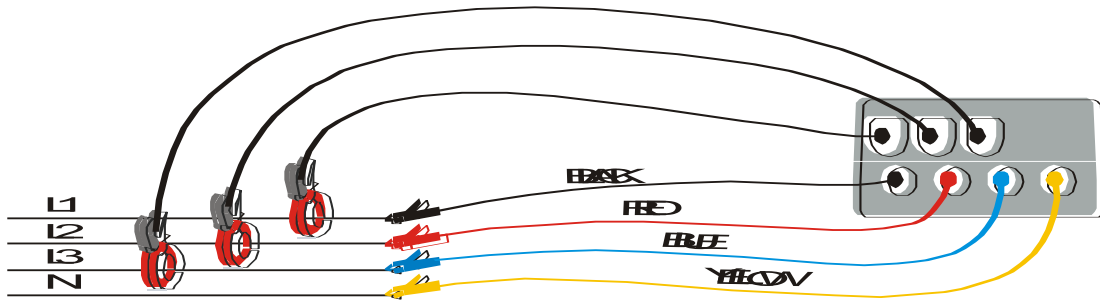

Fig. 2: Instrument connection in a three-phase 4 wire system
3. Connect the phase and neutral voltage wires following the connections shown in Fig. 2.
4. To measure current and power, connect the clamp meter to the phase conductor following the specifications shown on the clamp and the connections shown in Fig. 2. In case of doubts select the position **POWER** and, connecting one clamp a time, check if: